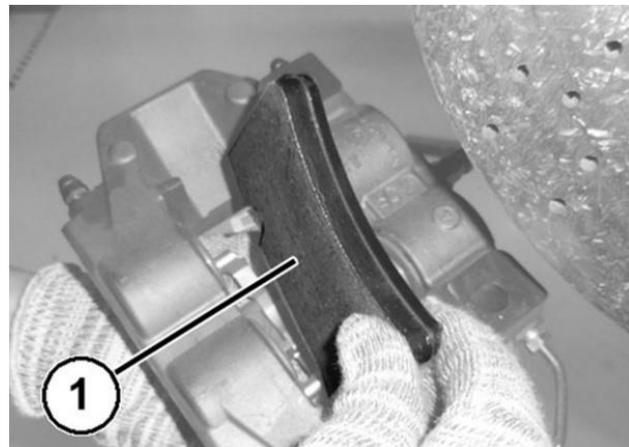

Figure 9 – Inner Brake Pad
- 30. Remove the inner brake pad (1) (Figure 9).